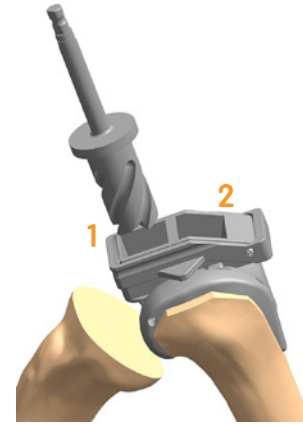

Figure 43
6. Insert the PS Box Reamer into the BCS Box Prep Guide and ream posteriorly first and then anteriorly (Figure 43).